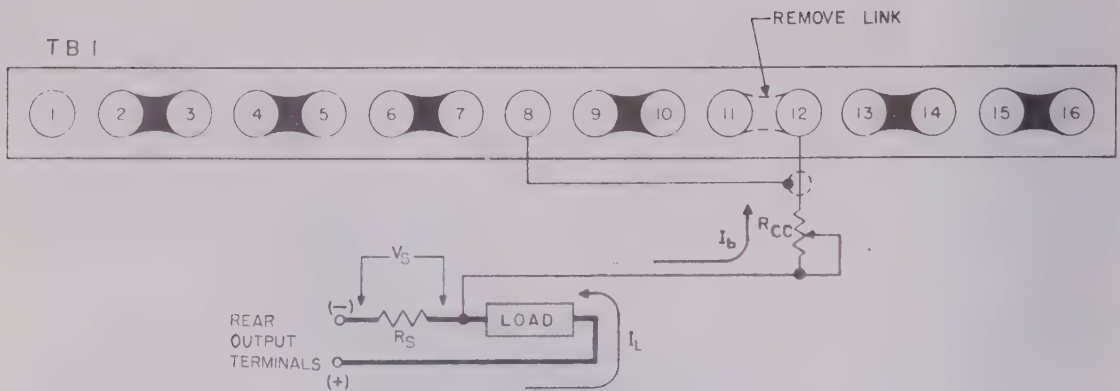

FIG. 3-9 CONNECTIONS FOR CURRENT REGULATION USING EXTERNAL SENSING
- Connect the selected components as shown in Fig. 3-9. If R_{CC} is made variable, the output current can be varied with it over an approximately 1:10 range. At 10 ma I_O however, the supply will lose control, because the control current which is in the order of 10 ma, will tend to cancel the load current through the sensing resistor, producing a large error signal at the comparison bridge.